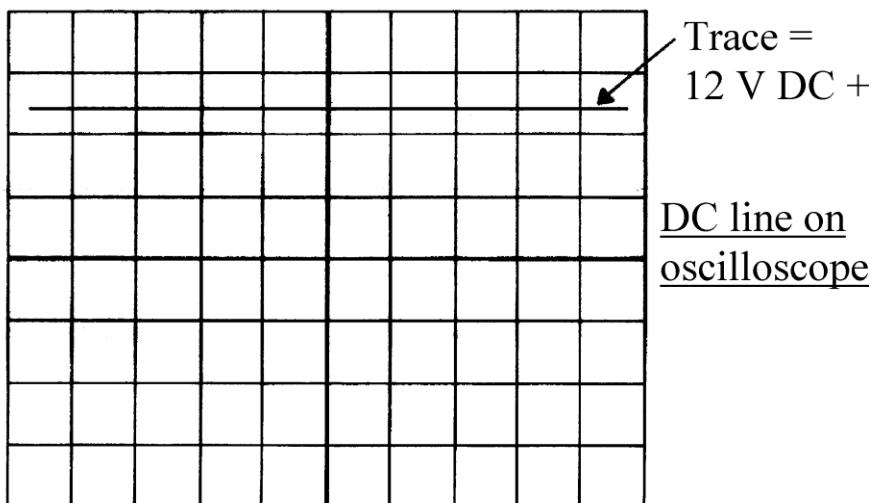

Figure 9
- Your screen should look like that in Fig. 9.